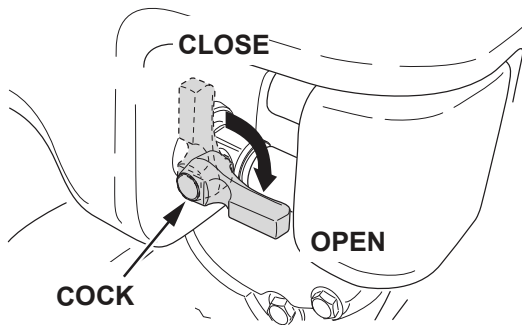

Figure 10. Water Tank Cock (Open)
1. If your unit is equipped with the water tank and your application requires sprinkling work, open the cock of water tank(Figure 10).